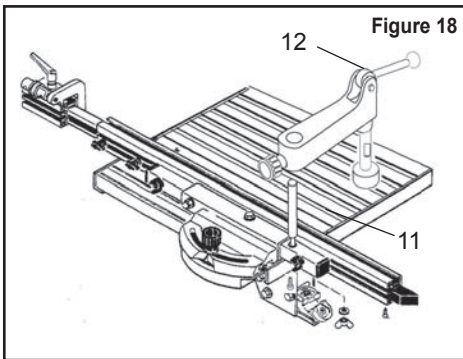

Figure 18
1. Fit the pulling rod into its locating hole situated on the stop tube (see Figure 18). Hold the rod in place with the supplied counter sunk screw (from below).
2. Attach the workpiece clamp (12) to the pulling rod; the desired height can be held with the handwheel.